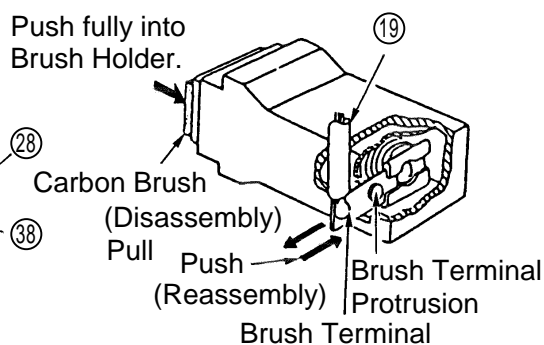

Fig. 5
- Next, while pushing the Carbon Brushes (38) fully into the Brush Holders (37) as illustrated in Fig. 5, gently pull out the brush terminals to disconnect them from the Carbon Brushes (38). The Carbon Brushes can then be taken out of the Brush Holders (37).